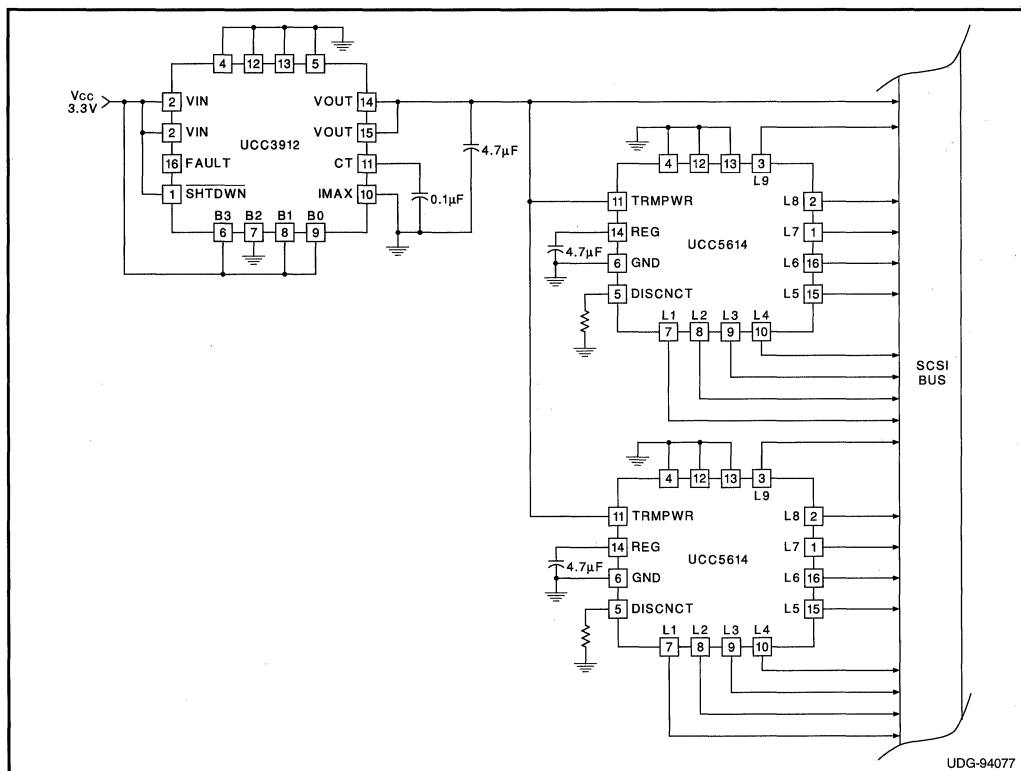

Figure 13. Typical 3.3V SCSI Application
3.3V bus leaves only 130mV of headroom for a diode, fuse, and regulator overhead. Replacing the diode and fuse with the UCC3912 limits the voltage drop to less than 60mV while still meeting SCSI requirements. Combining the UCC3912 with a low dropout active terminator such as the UCC5614 results in a complete design. Figure 13 illustrates a typical 3.3V SCSI application.